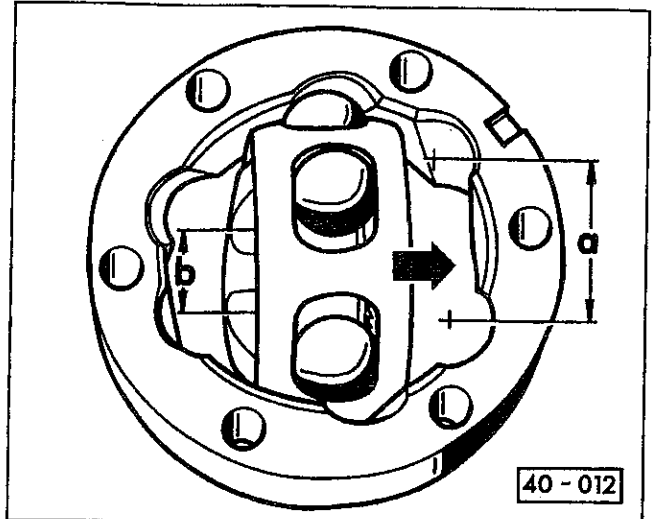

Fig. 29. Hub assembly correctly in housing with wide ball groove in housing (a) and a narrow groove in hub (b) together on one side.
8. Insert hub with cage and balls into joint at right angles, ensuring the following (see Fig. 29):